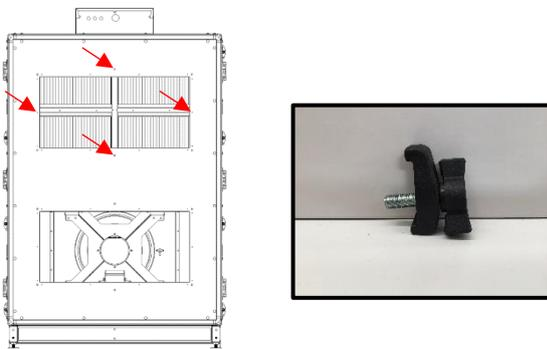

Fig. 12
- In EVO-30R/50R/60R/80R/95R/120R/150R models, after connection the bolts, attach to the clamp shown below to fixing the spigot/adapter (Fig. 12)